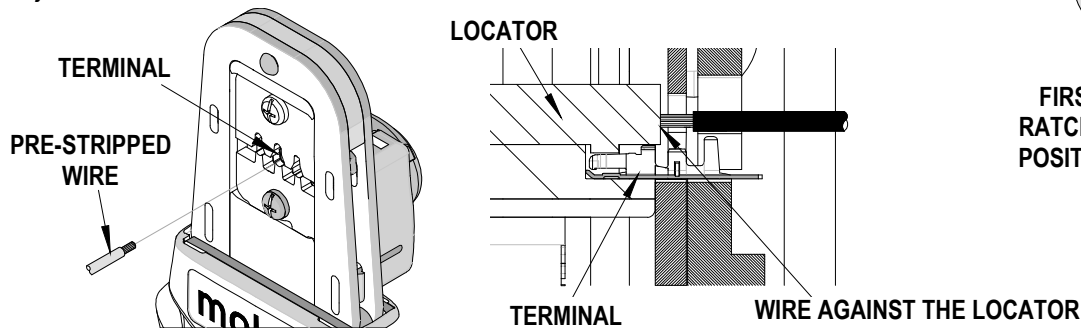

Figure 5
6. Insert the properly stripped wire above the terminal and against the locator. See Figure 5.